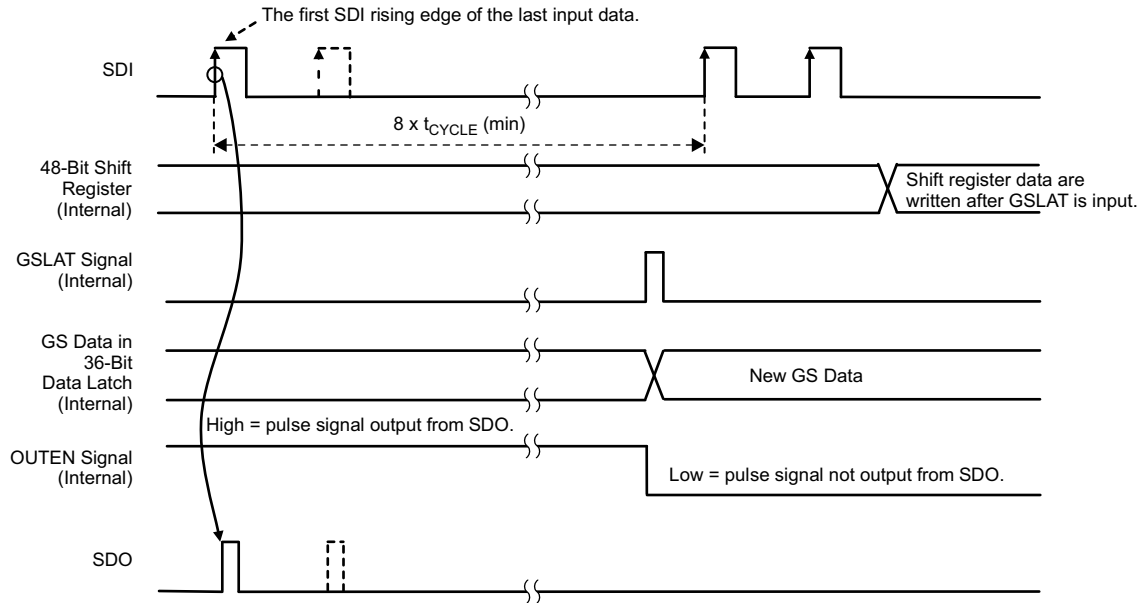

Figure 21. GS Data Latch Sequence (GSLAT)
A GS data latch (GSLAT) sequence must be input after the 48-bit data for all cascaded devices are written. When SDI is held low for the data latch hold time (t_{HL}), the 48-bit shift register data in all devices are copied to the GS data latch in each device. Furthermore, PWM control starts with the new GS data at the same time. Figure 21 shows the GSLAT timing.
7. The number of total bits is $48 \times N$. After all data are written, execute a GSLAT sequence as described in Figure 21 in order to copy the 36-bit LSBs in the 48-bit shift register to the 36-bit GS data latch in each device; PWM control starts with the written GS data at the same time.